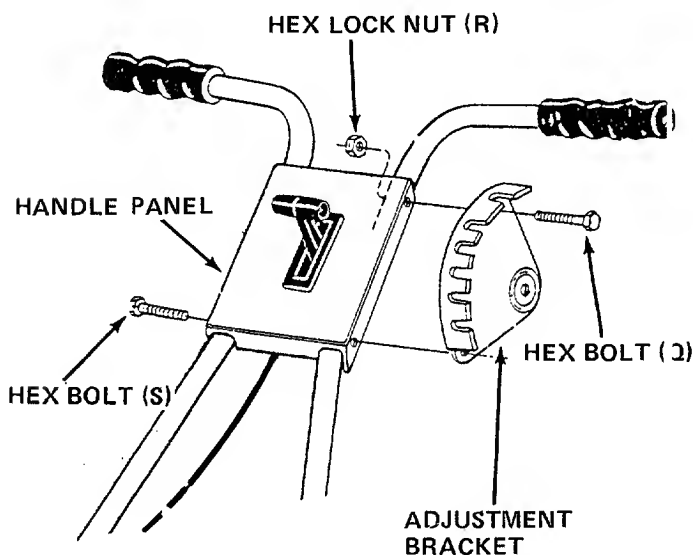

FIGURE 8
9. Place the handle panel over the upper handles and line up the holes. See figure 8.
10. Secure the right hand side of handle panel with two one-inch long hex bolts (S) and hex lock nuts (R). Do not tighten.
11. Secure the adjustment bracket to the left hand side of handle panel with 1-1/4 inch long hex bolts (Q) and hex lock nuts (R). See figure 8.